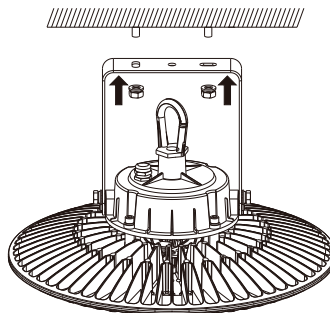

Fig. 2
2. Mount the bracket to the desired surface using 2 screws to secure each hole. **(Figure 2)**.